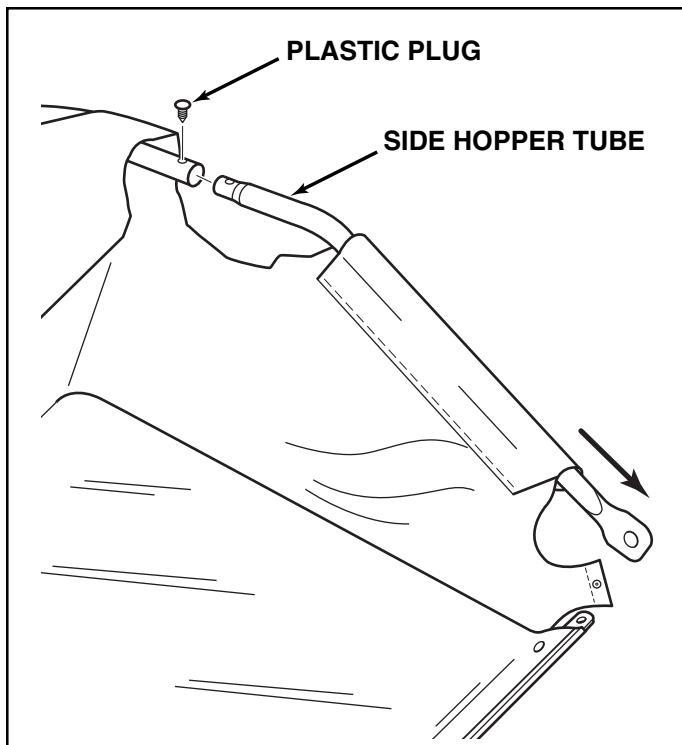

FIGURE 9
2. Insert the two side hopper tubes through the stitched flaps on each side of the hopper bag. See figure 9.
3. Assemble the ends of the upper hopper tube onto the ends of the side hopper tubes. Fasten together using plastic plugs. See figure 9.